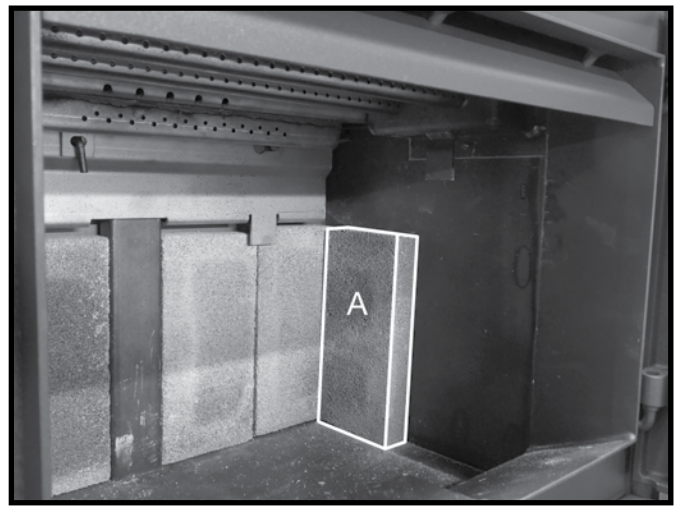

Figure 26: 1st side wall brick in place.
4. For the side walls: Stand an "A" firebrick against the side wall and up against the rear wall firebrick (Figure 26).